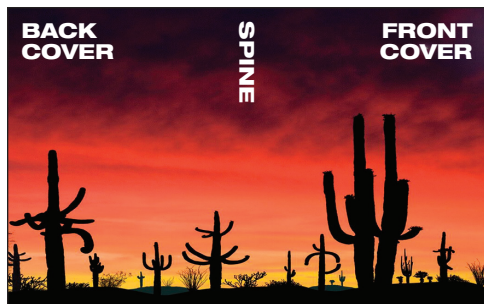

Fig 1a: Outside Cover.pdf
1. Create your Cover PDF file (see Figures 1a **or** 2a, 3a, 4a).
When the background artwork spans across the entire cover as shown in Figure 1a, it is best to send the outside cover as a Spread.